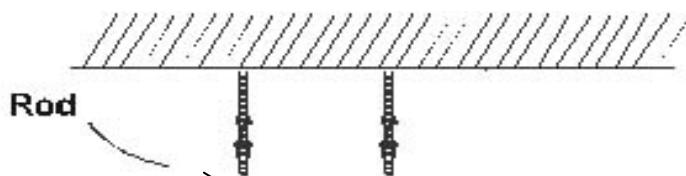
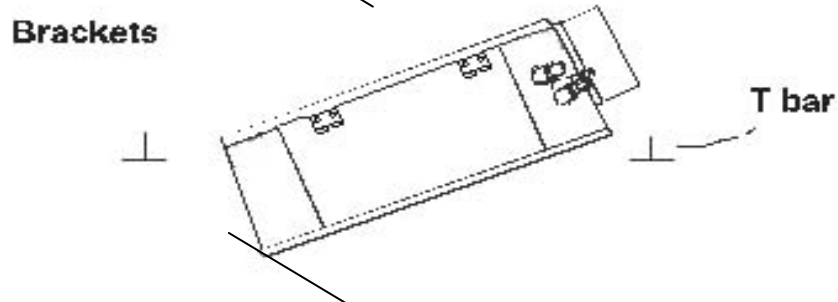
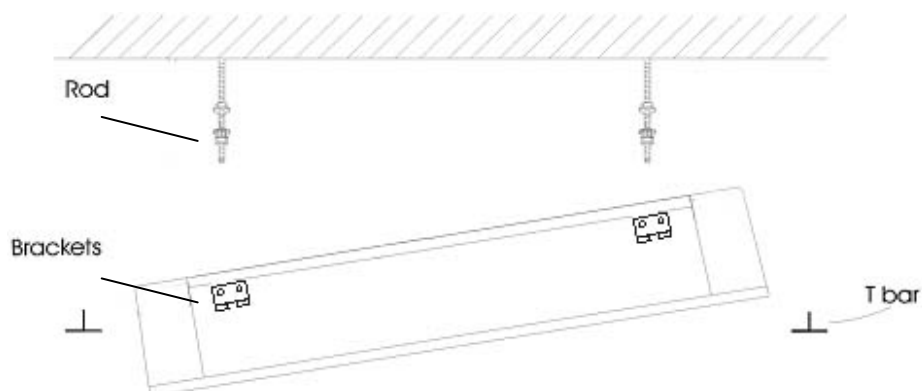
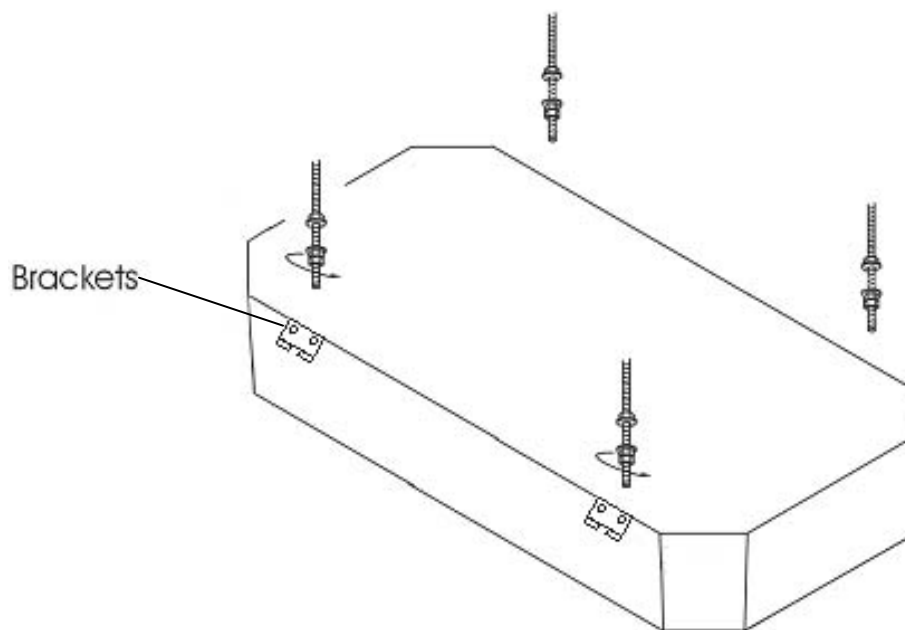

Fig.10
Fig.11
Fig. 13
Fig. 14
5. Incline unit (Fig.10, Fig.11, Fig.13, Fig.14) and insert it into the false ceiling. Insert the rods into the bracket slot. With minimum height (see table) false ceilings, it might be necessary to remove some T brackets of the false ceiling temporarily.